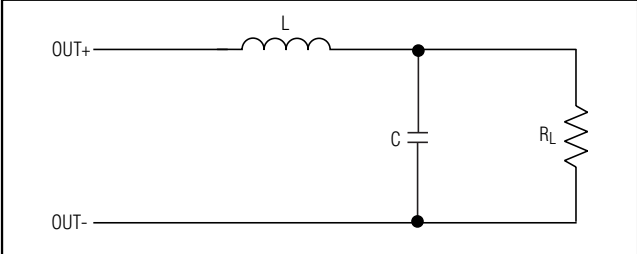

Figure 4a. Single-Ended 2-Pole Filter
• **Single Ended 2-Pole Filter (Figure 4a)**